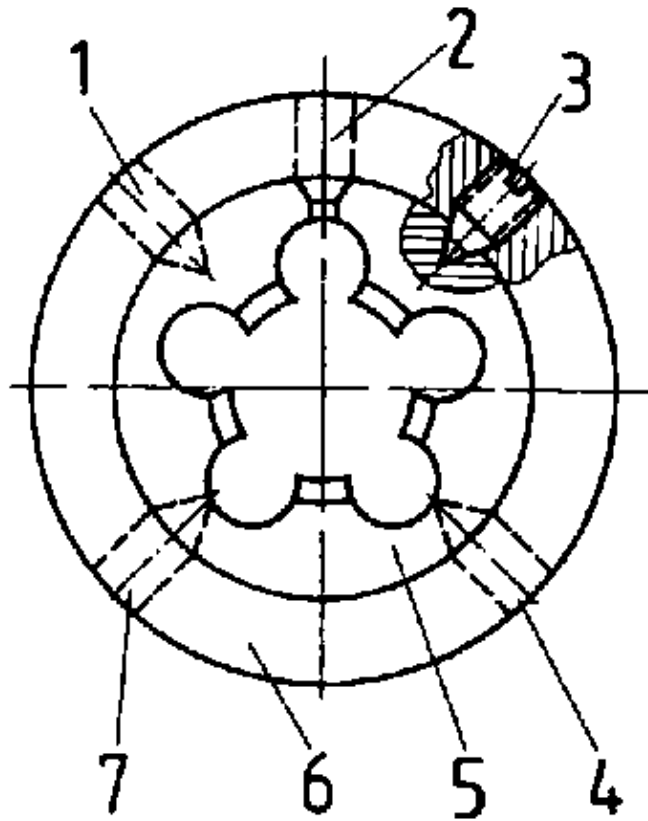

Figure 14. Die capsule
- The tailstock quill is brought into working position (Fig. 14) whereby special attention must be given to quill cleanliness.
- After the initial cut machine processing follows with the help of a support for the die holder. (see Fig. 14)